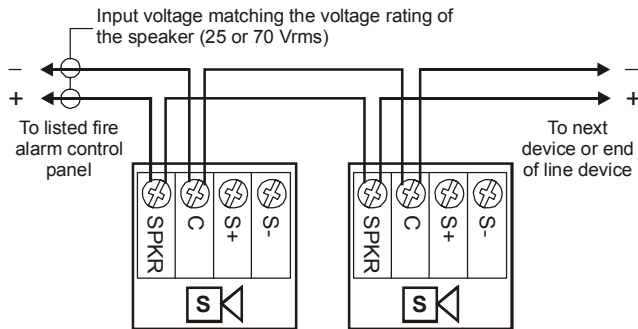

Figure 1: Wiring diagram
2. Connect wires as shown. Strobe terminals S+ and S- are not used for speaker only devices. See the Figure 1.